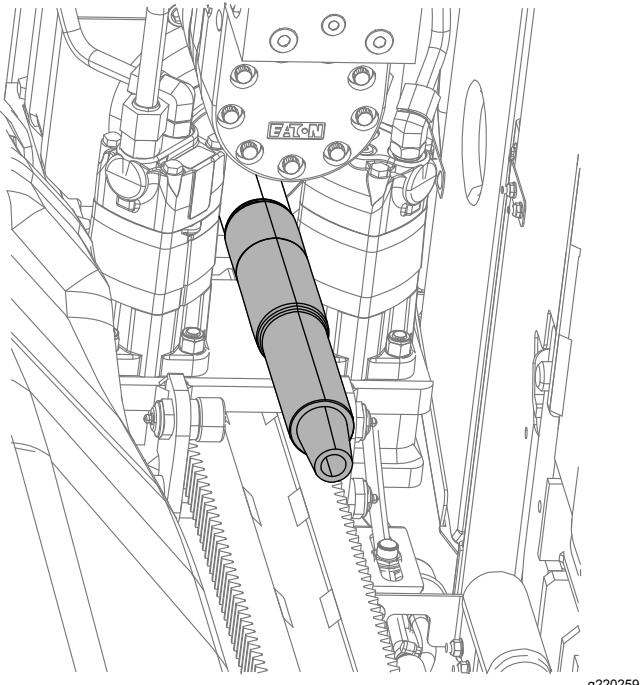

Figure 118
- B. Place a drain pan under the drill spindle for the leaked antifreeze (Figure 118).
D. When the antifreeze comes out of the drill spindle (Figure 118), turn the pump off.